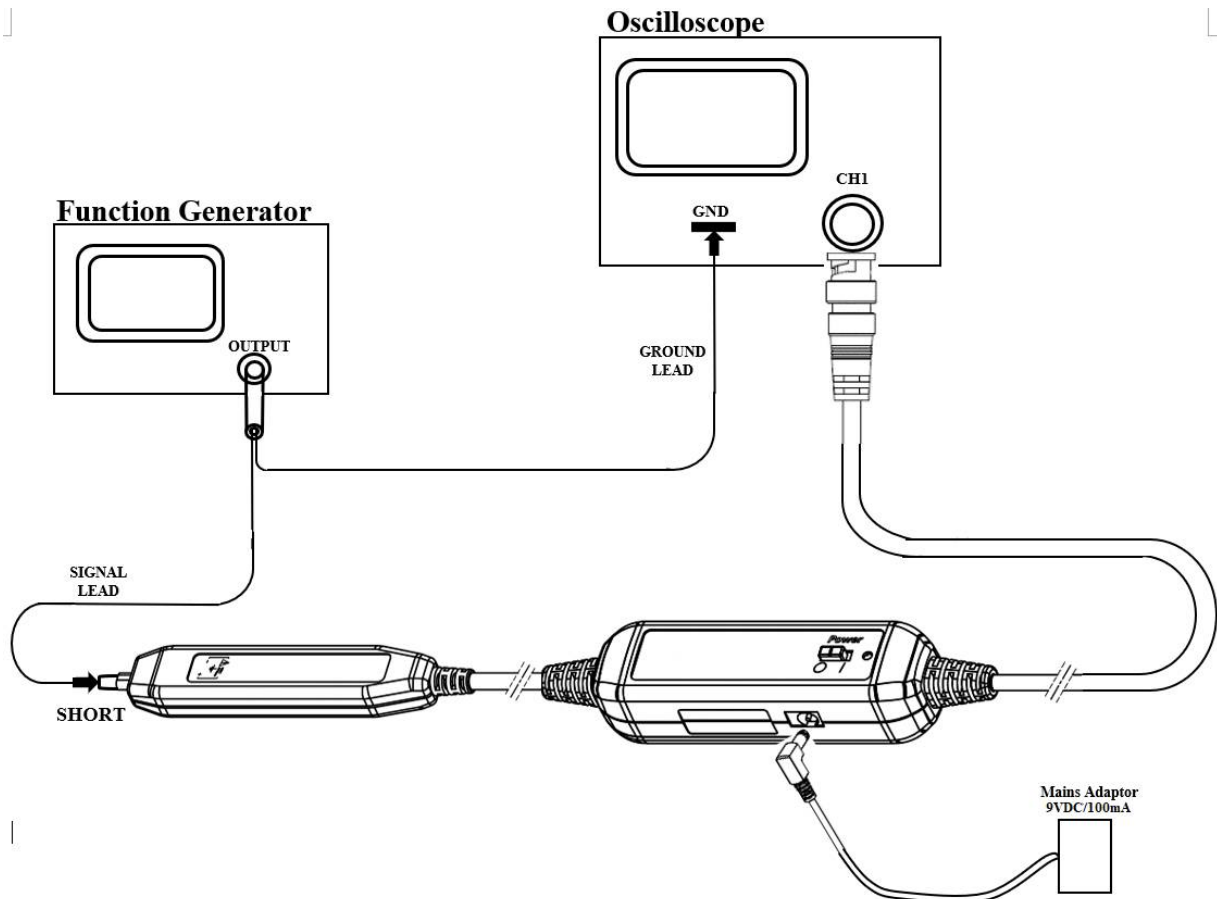

Fig. 6
- D-1. Connect the probe as shown in Fig. 6.